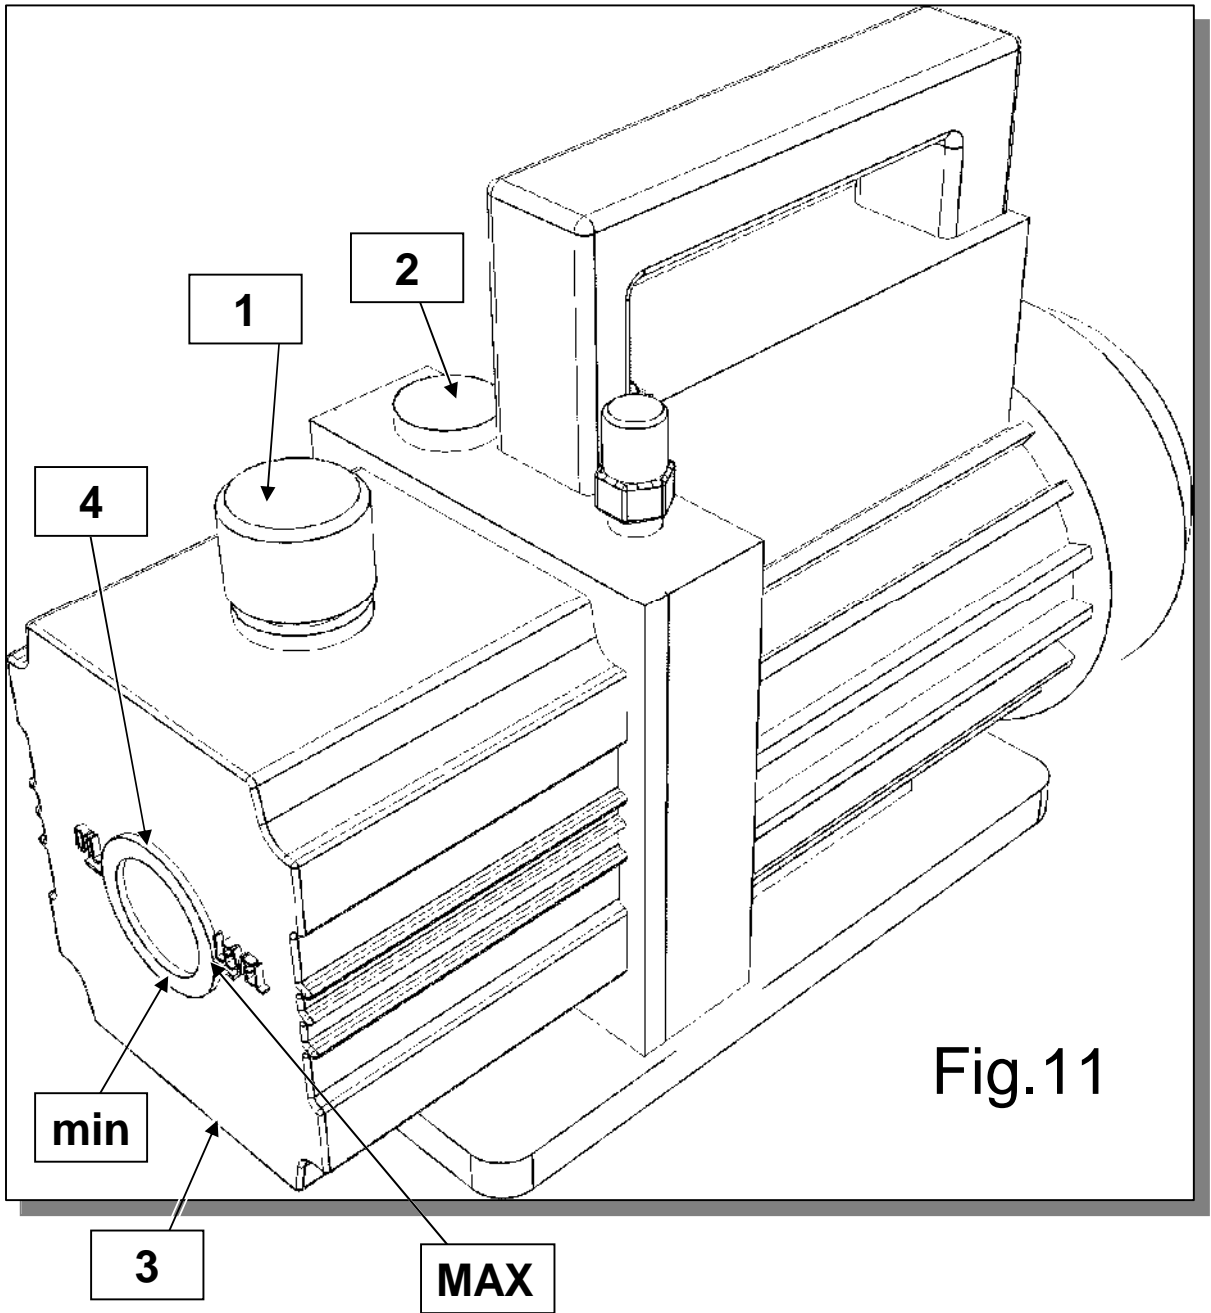

Fig.11
This operation must be performed when the level of the oil falls to less than half on the indicator (4) (refer to Figure 11). NOTE: in order to correctly check the oil level, run the pump for at least 1 minute (running a vacuum procedure in the hose for 1 minute) so that the oil fluidifies. Check the oil level when the pump stops. To refill the oil, perform the steps listed below in the order given. Disconnect the *MACHINE* from the mains supply. Locate the oil cap (2) and screw it completely off. The oil must be added through the hole in which the oil cap was lodged (2). Add oil a little at a time, waiting for the level to rise before each successive addition, until the oil level is about ½ cm above the red mark on the indicator (4). Replace the oil cap (2) and tighten down.
- 2) Unscrew the filling cap 2 (refer to Fig. 11).